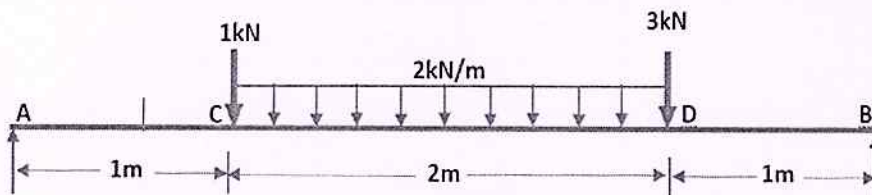

Fig 1.3
- 12 a) Analyse the beam shown in Fig 1.3. Draw Shear force diagram and Bending moment diagram also Find the maximum Bending moment. CO3 (9)